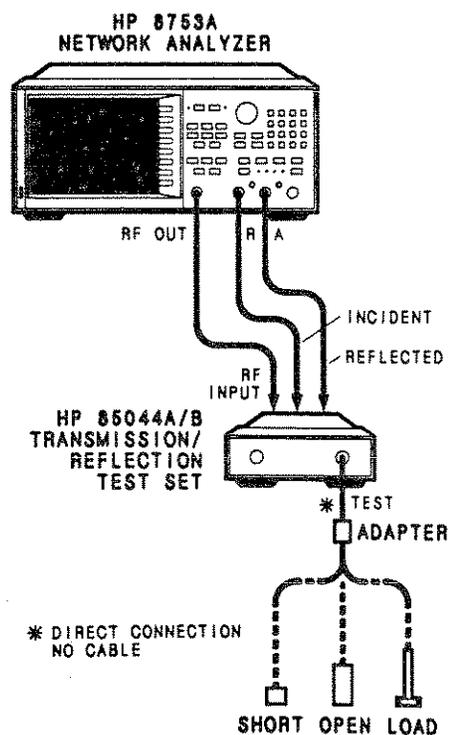

Figure 4-2. HP 85044A Calibration Setup.
1. Connect the HP85044A test equipment to the HP 8753A and connect the 7 mm/type-N (m) adapter as shown in Figure 4-2. Turn on the analyzer and press **[PRESET]**.